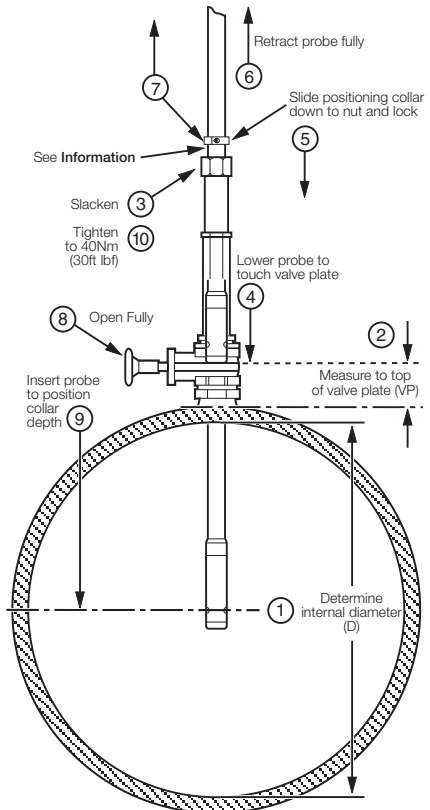

Fig. 2.13 Setting the Insertion Depth – Centre Line Method for Pipe Diameters >1m 2m (>40in 80in)
2.6.2 Centre Line Method for Pipe Diameters >1m ≤2m (>40in ≤80in) – Fig 2.13